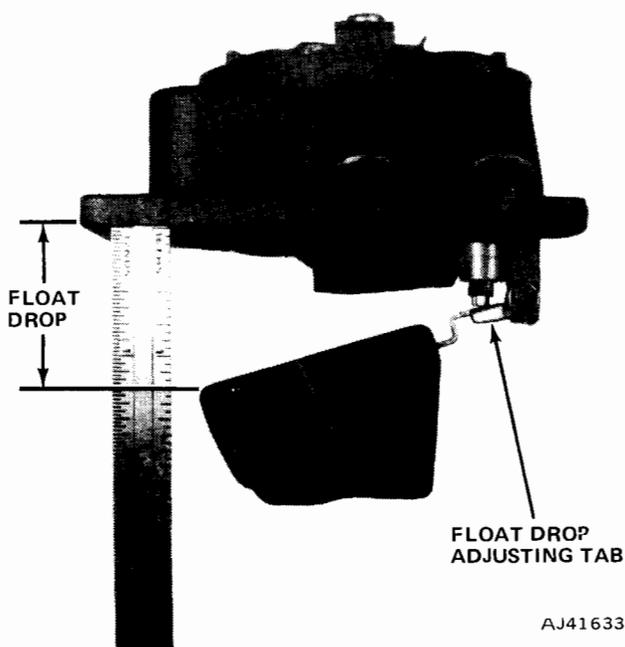

Fig. 4-27 Float Drop Adjustment
(1) Remove carburetor air horn and gasket from carburetor.
(2) Hold air horn upright and let float hang free. Measure the maximum clearance from top of float to bottom of air horn with float drop gauge. (Refer to Carburetor Service Specifications for proper clearance.) Hold air horn at eye level when gauging dimension (fig. 4-27).
(3) Bend tab at end of float arm to obtain specified setting.
(4) Install carburetor air horn and new gasket on carburetor.